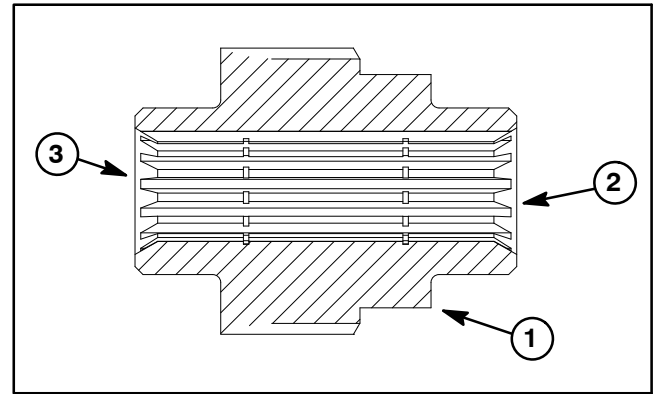

Figure 3
**NOTE:** The stepped end of the splined brake shaft must be aligned toward the hydraulic wheel motor (Fig. 3).
2. Apply gasket sealant (Loctite #2 or equivalent) to sealing surfaces of new gasket (item 12). Align gasket and secure brake assembly to planetary.